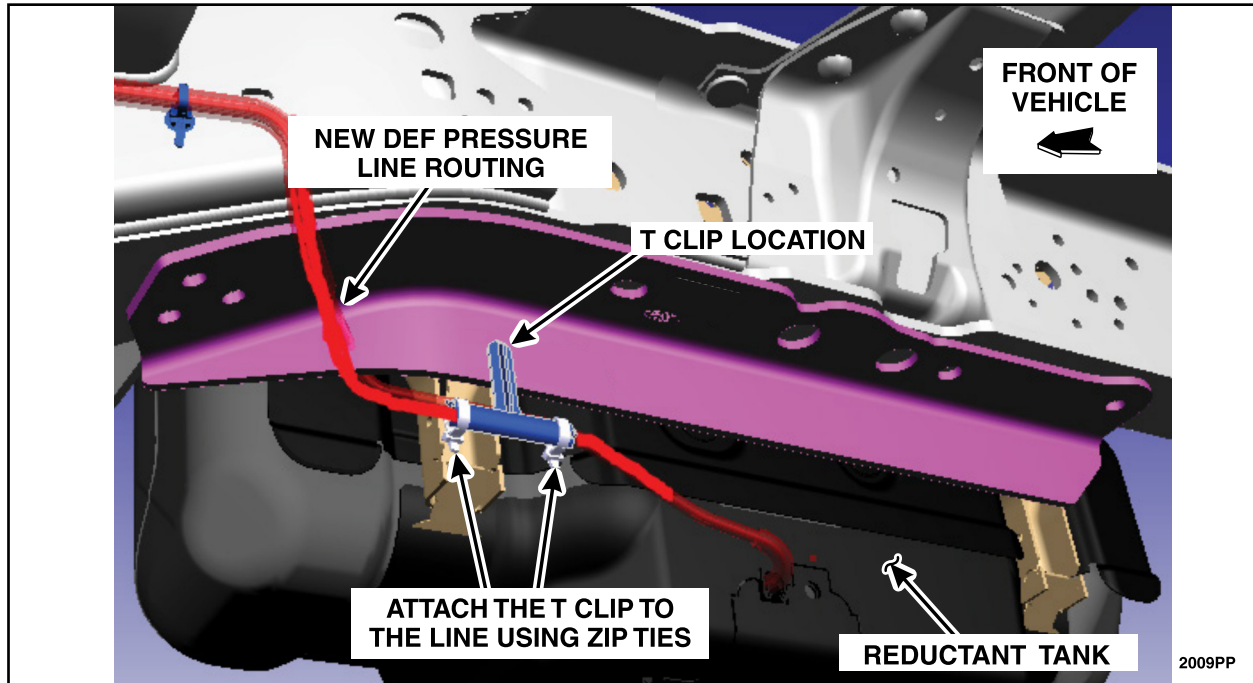

FIGURE 35
2. Once the RH side lower bracket has been installed, install the supplied T clip to the existing hole in the lower reinforcement bracket and route the DEF pressure line toward the T clip and attach the T clip to the DEF pressure line with two (2) of the supplied zip ties as shown in Figure 35.